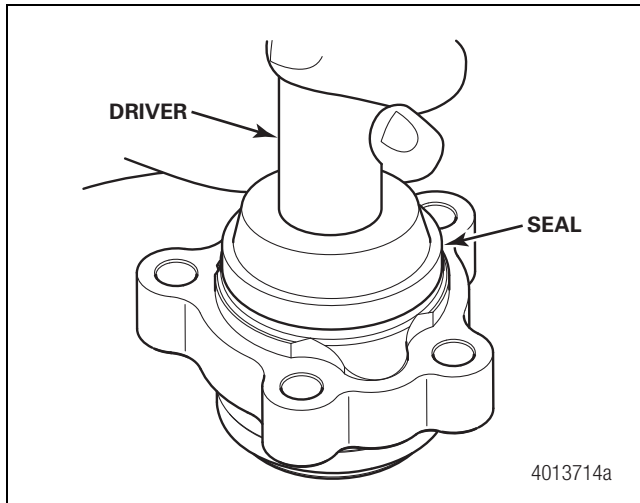
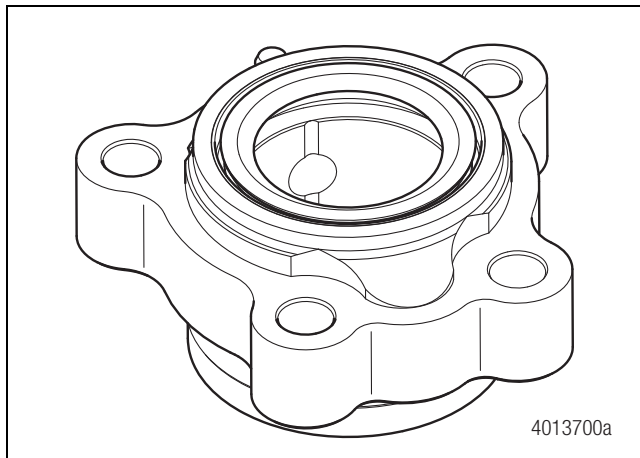

Figure 11.51
Figure 11.52
14. Press the seal in until it is flush against the housing. Figure 11.51 and Figure 11.52.